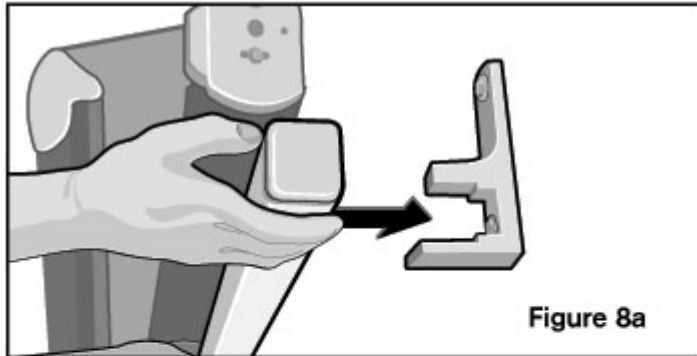

Figure 8a
18. With proper help, lift the awning (with fabric/roller bar above the square bar) into the brackets and position so the ends line up with end points marked on the wall - see figure 8a. Use the following weight chart to decide how much help you need.